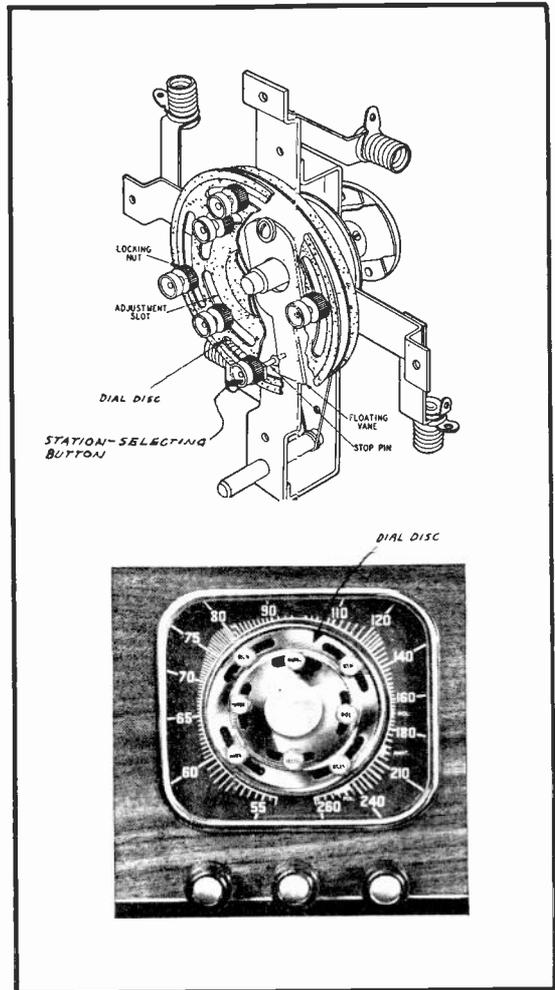

FIG. 5
**CONSTRUCTION AND OPERATION:** In the dial assembly illustrated in Fig. 5 the various station selecting buttons are locked in slots cut in the dial disc. This dial disc is locked to the tuning condenser shaft and is free to rotate as a body with the rotor plates of the condenser.
**STATION BUTTON ADJUSTMENT:** Upon referring to Fig. 5, you will observe that the length of the annular slot occupied by each button is such that considerable leeway for adjustment is possible to allow for correct location of the button.